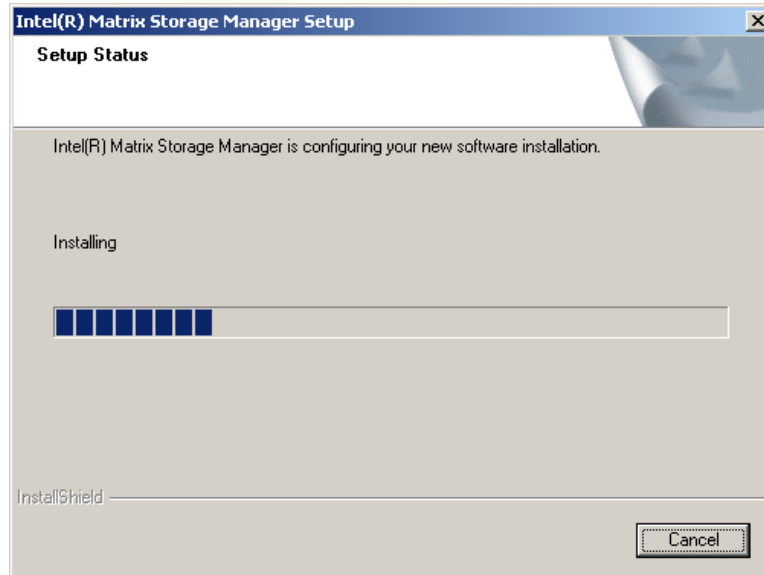

Figure 7-34: Matrix Storage Manager Setup Screen
Step 6: Figure 7-34 shows the **Matrix Storage Manager** software configuring the installation process.